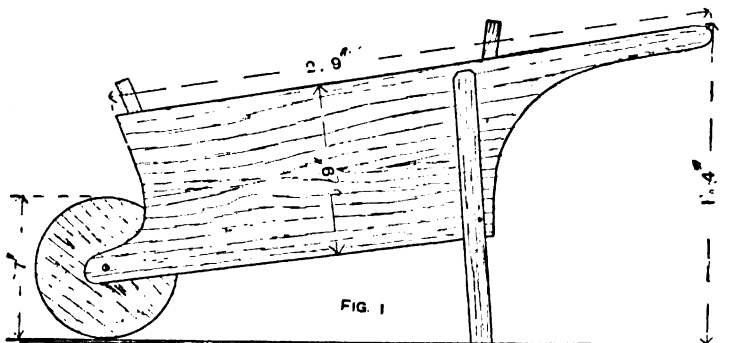
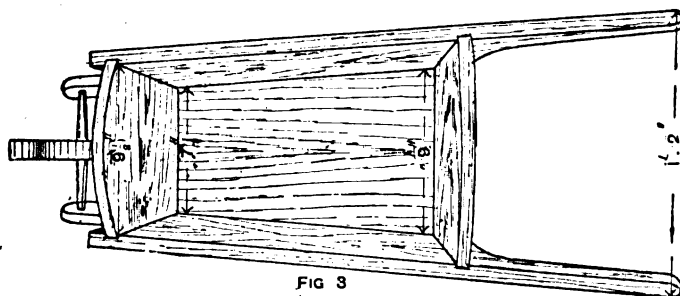

FIG. 1
FIG. 3
screwed to B, their edges being bevelled or moulded. Two small drawers are fitted under the shelves. The dotted lines in Figs. 1 and 2 show where the sides of the drawers come, and the projecting pieces hide the bearers shown in section in Fig. 3, where C is the side of the drawer. A piece of wood  $\frac{1}{2}$  in. square is screwed flush with the top edge of the side. The bearer A is screwed under the shelf. A small brass handle should be screwed to the front of each drawer.
**Box Wheelbarrow.**—Figs. 1, 2, and 3 show a small box wheelbarrow for use in the garden, etc. The wood for the sides, ends, and bottom should be  $\frac{3}{4}$  in. to 1 in. thick, housed and nailed together as indicated. The
**Copying Letters into a Letter-book.**—There is but one method in common office use for taking a copy of a written letter in a letter-book. Briefly, it consists in bringing the surface of the written sheet into close contact with a moistened leaf of the letter-book. This contains generally either 500 or 1,000 leaves of thin, white, rather transparent paper; for copying type-written matter, the paper is thinner and still more transparent, being of the kind known as "Japanese." Usually a letter-book is half-bound in leather, the great pressure which it has to withstand, and the rotting effect of the water, rendering necessary an exceptionally strong binding. The leaves measure usually  $8\frac{1}{2}$  in. by  $10\frac{1}{2}$  in., and are numbered consecutively in the right-hand top corners on their front faces. Other requisites besides the copying-press are brush and water-well, sheets of blotting paper or special drying sheets, and oil sheets. A modification of the process of copying renders necessary cotton cloths, slightly larger than the letter-book page, and a tray to hold the cloths. The brush may be of camel-hair, and have a width of 3 in. or 4 in., or it may be of "patent felt," with a width of from 3 in. to 6 in. A felt brush is illustrated in front and side views by Figs. 1 and 2. In the section shown by Fig. 3, F indicates the folded felt, I a wedge-shaped piece of vulcanised, pliable
indiarubber, which prevents the felt collapsing, and Z a strip of zinc, which is folded round so that its ends overlap, and which is screwed to the felt and rubber and to the wooden handle W. The letters in Fig. 1 have similar meanings. This felt brush may be 8 in. long,  $\frac{1}{4}$  in. wide above the zinc strip, increasing to  $\frac{1}{2}$  in. at the bottom edge of the felt, the wood being  $\frac{1}{4}$  in. thick. Felt brushes hold more water than those of hair, and are practically everlasting. The water-well is often a reservoir of china or tinplate, with a cover in which is a slot, through which the brush can pass; but a well can be improvised from any vessel capable of holding water. The drying sheets are specially prepared, but thick, white, and highly porous blotting paper does equally well. It should be cut 1 in. longer and  $\frac{1}{4}$  in. wider than the leaf of the letter-book. The oil sheets, also, are special preparations, and probably can be bought more cheaply than they can be home-made. To prepare them, thick hand-made paper is coloured yellow by immersion in a decoction of annatto or turmeric; when dry, the paper is soaked in a mixture of equal parts of castor oil and alcohol, and the sheets are then hung up separately to dry. The following is the method generally adopted in making copies of matter written with copying ink. Lift up the letter-book right-hand page on which the fac-simile is to be produced, and insert beneath it an oil sheet. Then, with the brush dampened, evenly moisten the page, leaving dry the right-hand top corner, on which is printed the page number, and the extreme left edge of the page; if this edge is wetted, the strength of the binding will be affected in time. To remove surplus moisture, place a drying sheet or two over the wet page, an oil sheet on the top of this, close the book, and place it in the copying-press with the bound back of the book projecting from between the plates of the press. In all the press operations the back edge of the book must not be pressed, or it will be broken and the pages will become loose. On this preliminary pressing depends the success of the process; if the pressure is too great and too much moisture is removed, a faint and probably